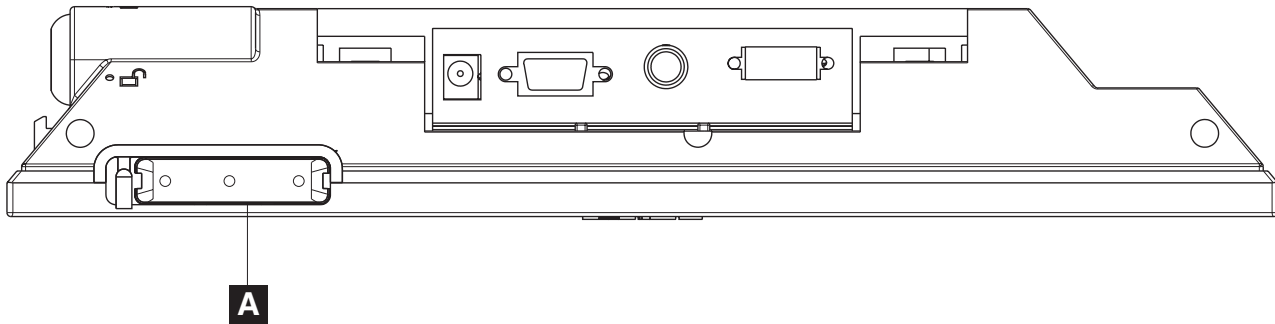

Figure 2-44. Location of optional button cover
1. Align the button cover with the buttons located on the bottom of the 4820 (**A** in Figure 2-44).